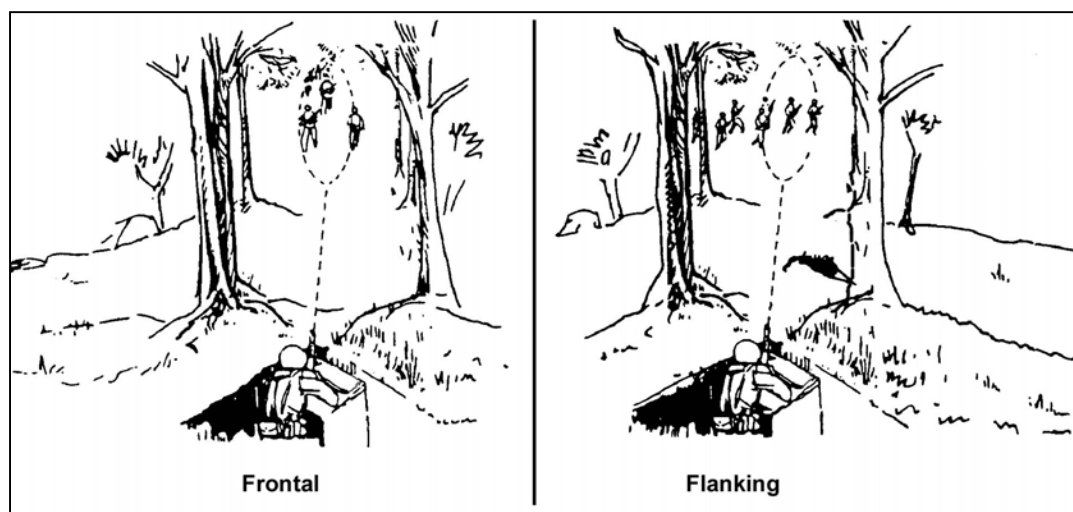

Figure 5-4. Frontal fire and flanking fire.
a. **Frontal Fire.** Frontal fire is when the long axis of the beaten zone is at a right angle to the front of the target. An example is when firing at the front of a target (Figure 5-4).
b. **Flanking Fire.** Flanking fire is firing at the side of a target (Figure 5-4).